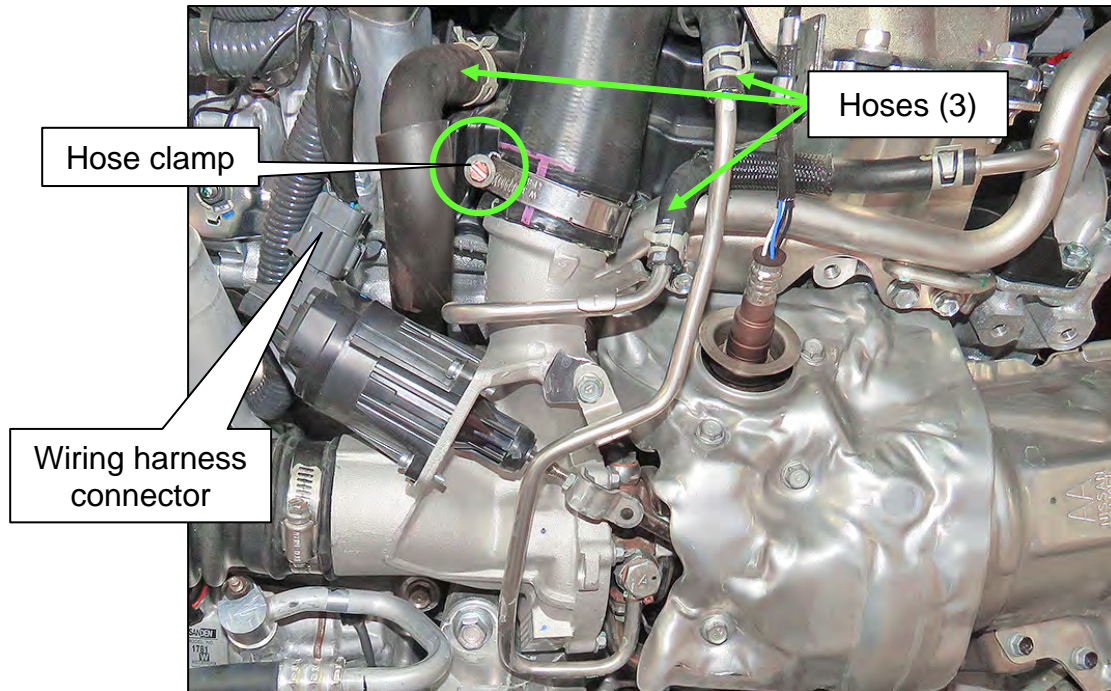

Figure 68
107. Loosen the hose clamp shown in Figure 68. This hose will be detached in step 124 on page 36.
108. Release the spring clamps and disconnect the three (3) associated hoses, shown in Figure 68.
109. Disconnect the wiring harness connector shown in Figure 68.